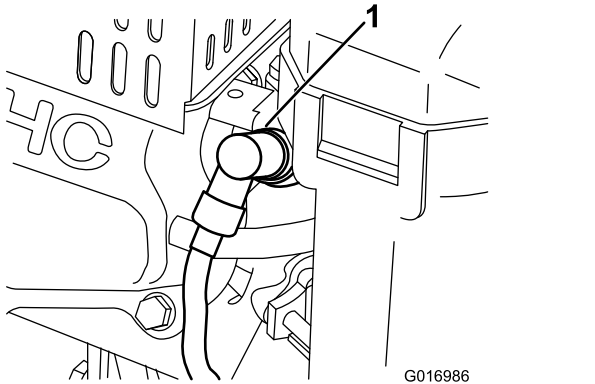

Figure 38
1. Pull the molded wire off the spark plug (Figure 38).